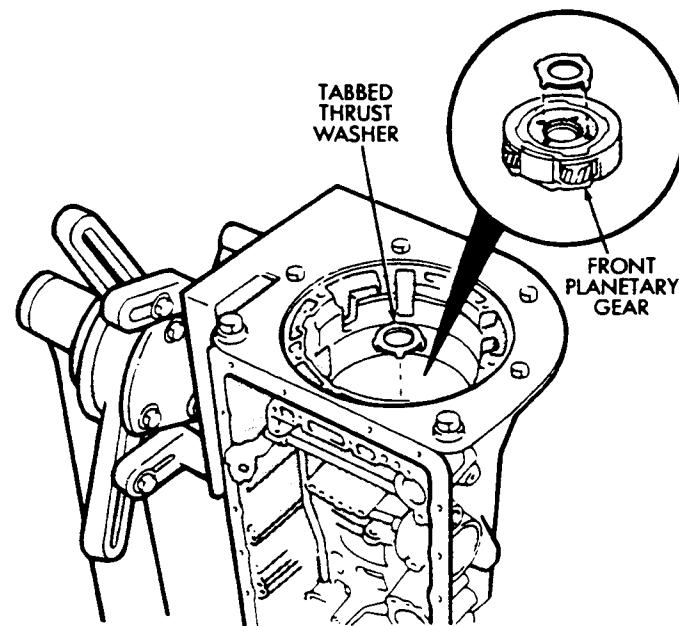

Fig. 21 Installing Planetary Thrust Race
(25) Install planetary snap ring on sun gear with tool B.Vi. FM-30.
(26) Install tabbed thrust race on front planetary gear (Fig. 21). Washer tabs face down and toward gear. Race outer diameter is 47.8 mm (1.882 in); inside diameter is 34.3 mm (1.350 in).